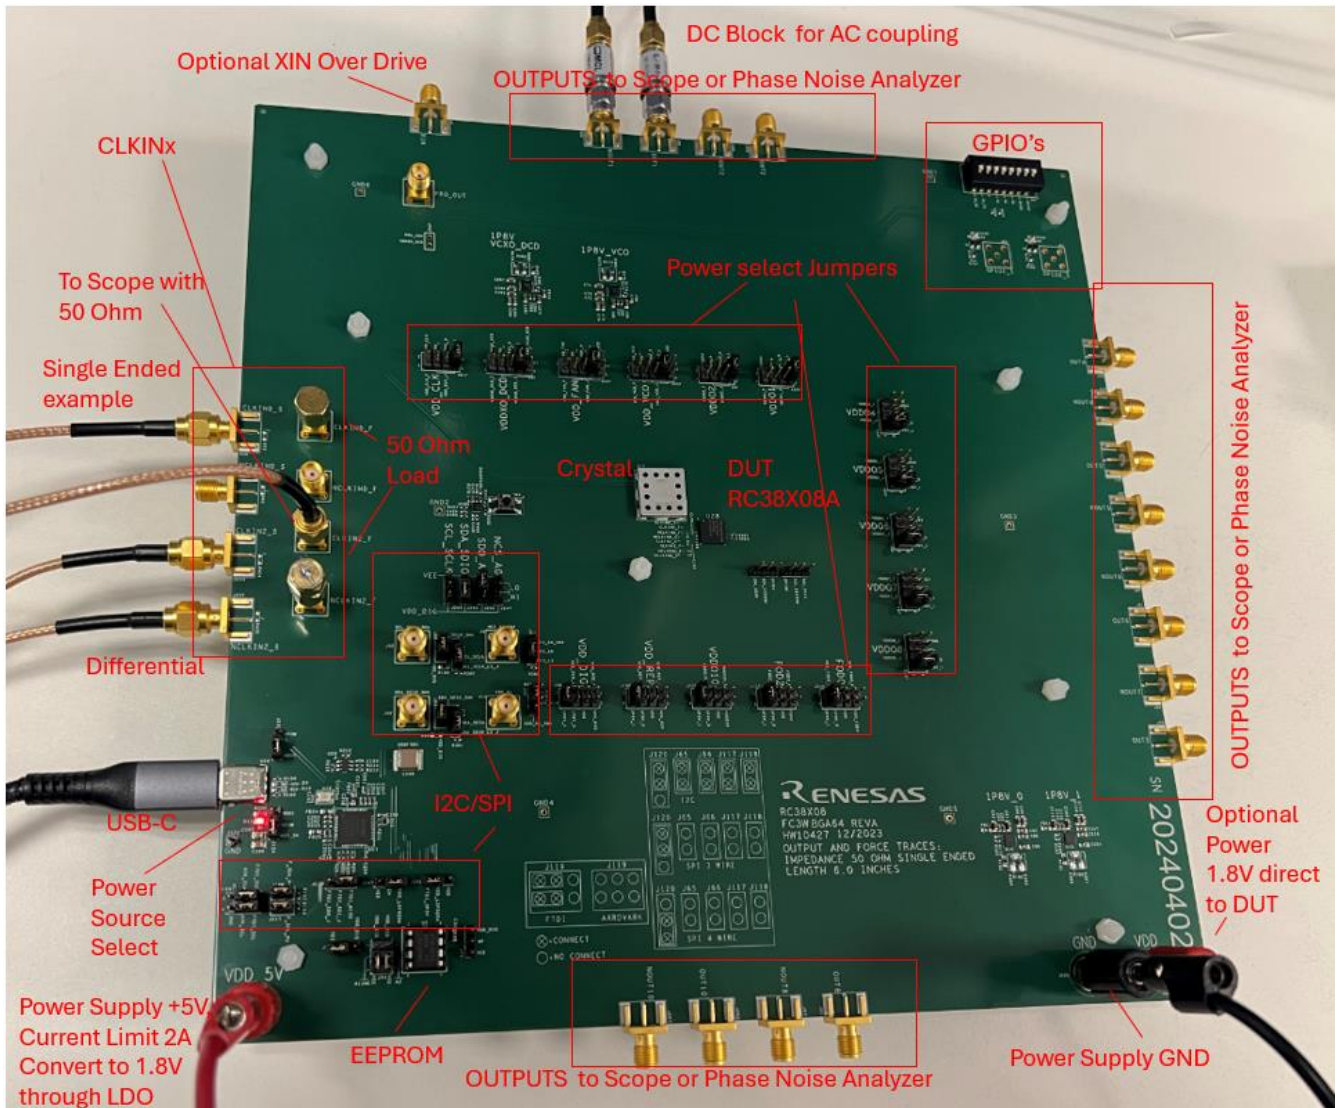

Figure 2. Evaluation Board – General Setup
The following sections describe the crystal, input clock, serial, GPIO, and output and power functions used for setting up device testing. The jumper setup example is shown in Figure 2.
- **Power Supply** – Use 5V_VDD with on-board LDO to generate 1.8V power rail. See Figure 2 for power select jumper settings (the J90 V_{DD} = 1.8V setting is not used this example).
- **CLKx Inputs** – The CLKx inputs are AC-coupled by default and can accept either differential input or single-ended input. The **CLKx** input has no on-board 50Ω termination. If the signal source, for example, lab equipment requires 50Ω to GND termination at the receiver, the Sense connectors are provided for lab equipment monitoring (e.g., scope with 50Ω input for monitoring the CLK input signal). If the sense connector is not used, then a dummy 50Ω load is required (see Figure 2) at the sense. The CLK0 input shows a 1.8V LVCMOS single-ended input. A 50Ohm dummy load is provided at the Sense. The CLK2 input shows a differential input. Once the Sense through Coax cable is connected to a scope with 50Ohm input channel, the other Sense can provide a 50-Ohm dummy loaded.